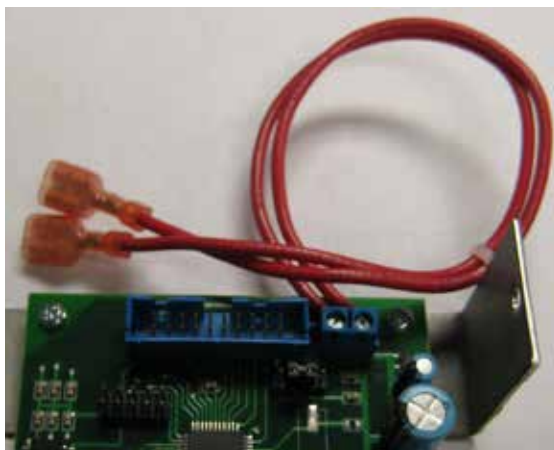

Figure 4: Thermostat connection wires.
2. Connect the Thermostat or Timer to the thermostat wires on the unit. (Fig. 4)